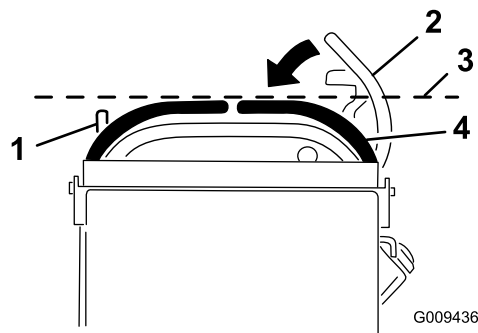

Figure 79
3. Push the motion-control levers down out of the NEUTRAL-LOCK position (Figure 79).
4. Check if the right motion-control lever aligns horizontally with the left motion-control lever (Figure 79).